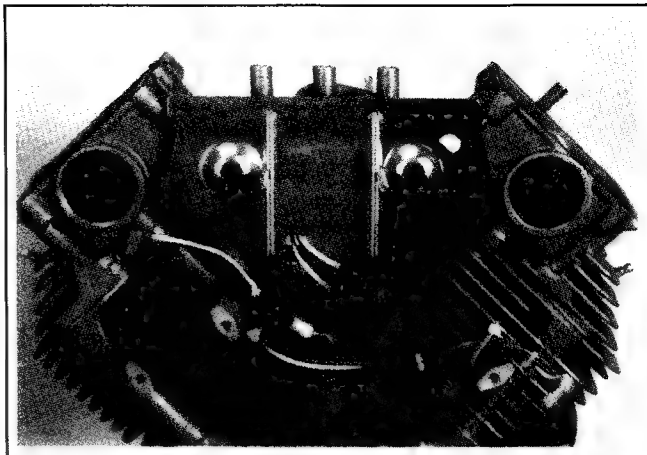

Figure 11-23. Valley Baffle Installed. Note Wiring.
1. Before installing the valley baffle (see Figure 11-23), carefully route wiring as follows: